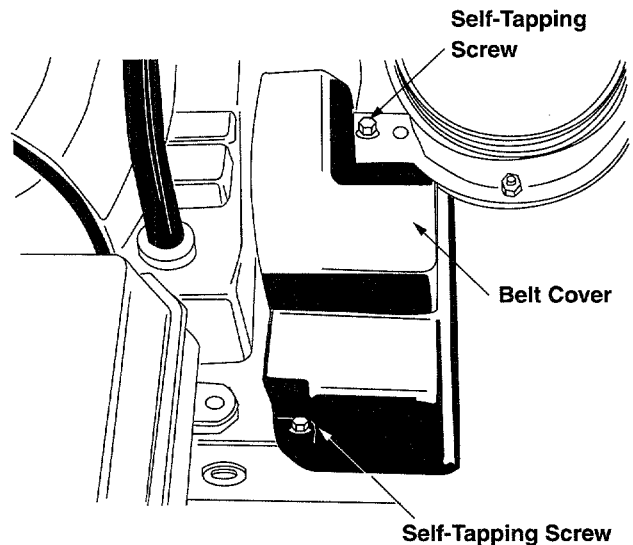

Figure 23
- Remove the plastic belt cover on the front of the engine by removing two self-tapping screws. See Figure 23.
- Remove the plastic belt cover on the front of the engine by removing the two self-tapping screws. See Figure 23.